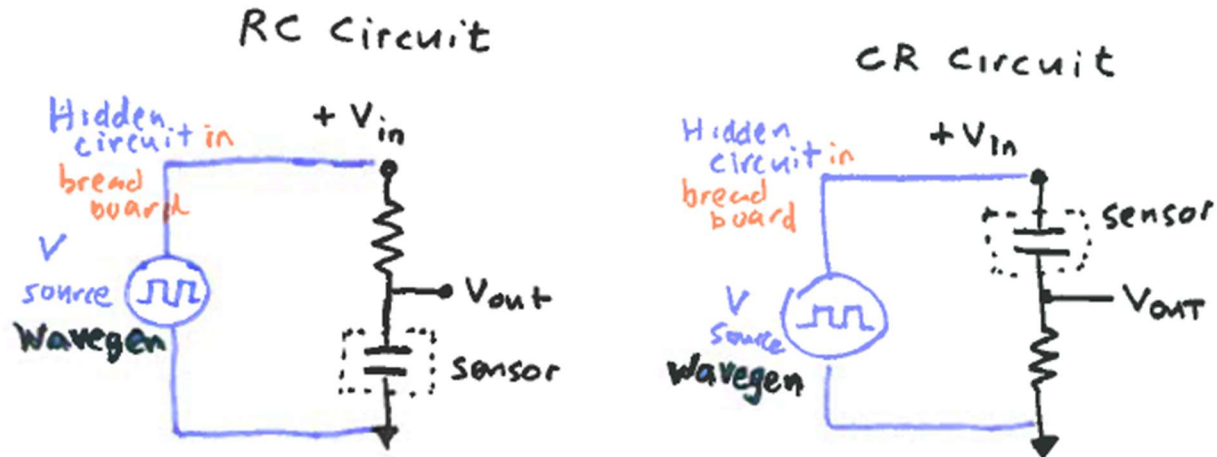

Figure 2. RC and CR circuits that will work with the %RH sensor.
2. You can program Wavegen to input V_{in} as shown in Figure 2;